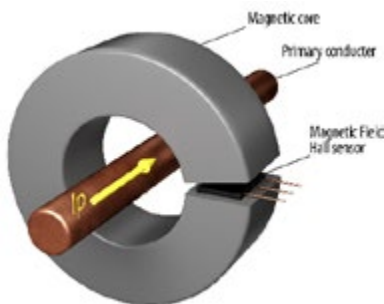

Figure 1: Conventional current measurement with toroidal magnetic core
The conventional approach for AC/DC current sensors or current converters is to place a soft toroidal magnetic core with an air gap around the live conductor. If a magnetic field sensor is then introduced into this air gap, its output signal is proportional to the flowing current (see Figure 1). It should be noted that alternating currents (AC) can be measured with current converters based on converter technology, whereas this is not possible with DC currents.